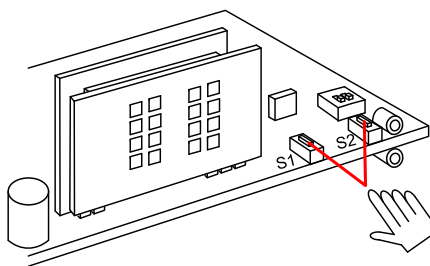

Figure 5
2. Press S1 or S2 button on the board inside the radar (Fig. 5);